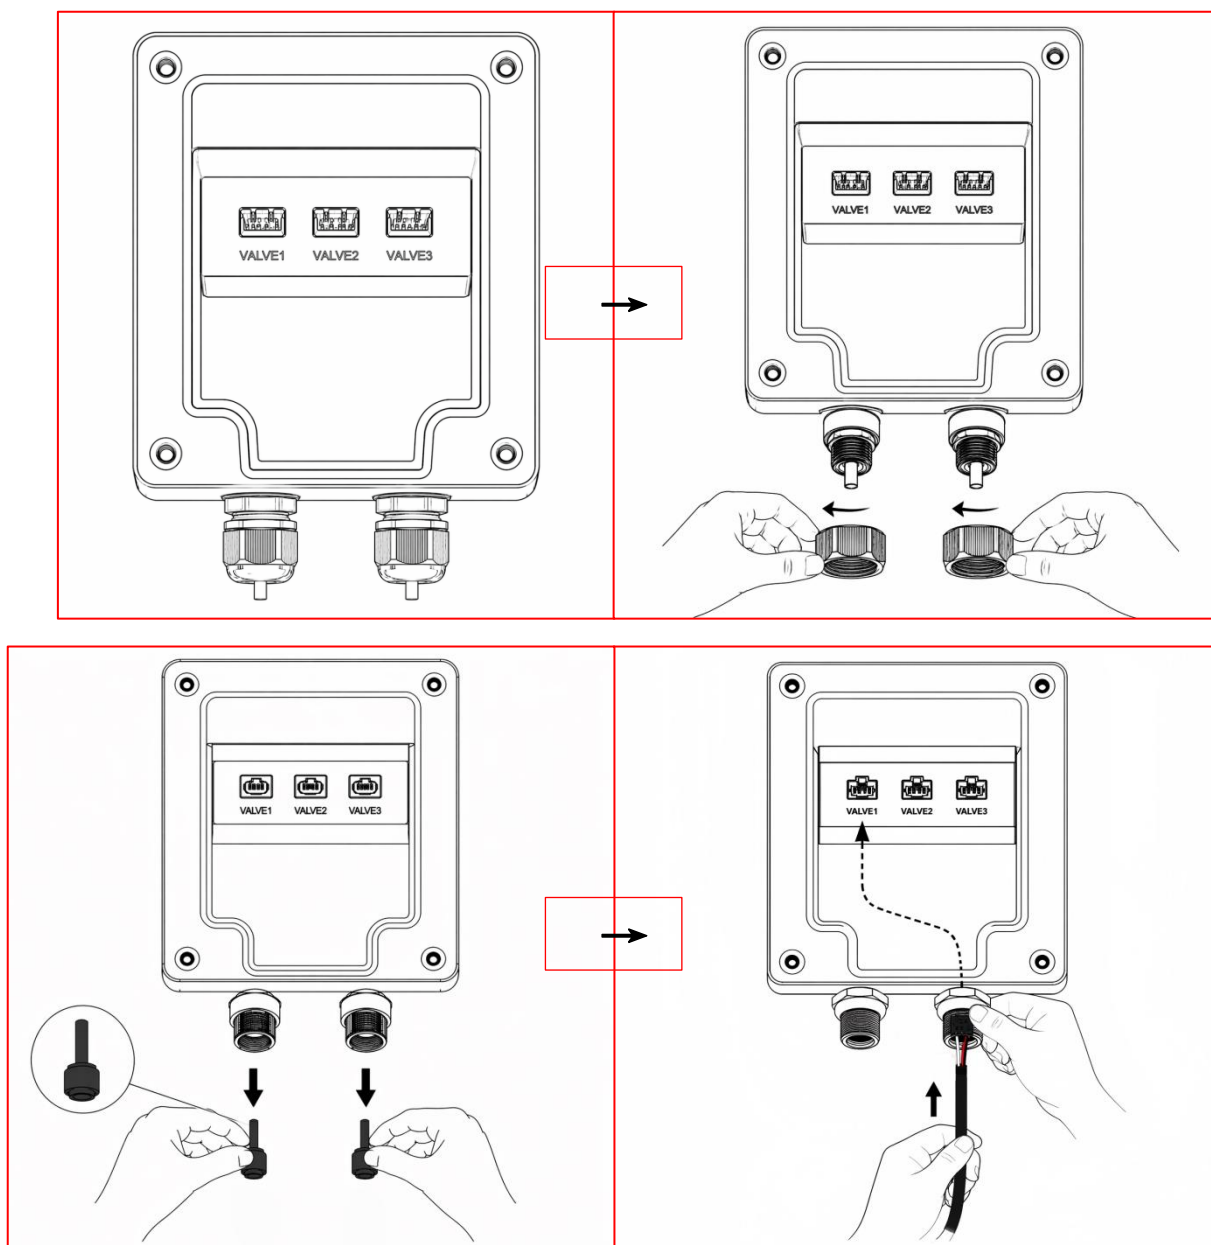

Figure 4 - Wiring steps
- 2) Route the actuator power cable through the waterproof cable gland nut and rubber plug, then insert the power connector into the terminal strip (FIG.4).